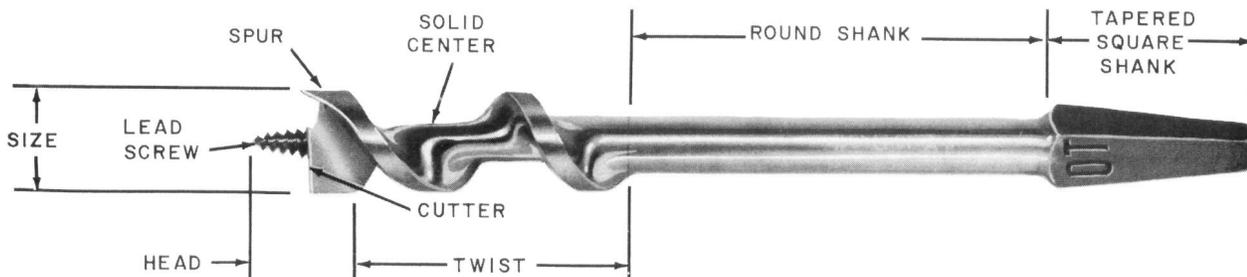

Fig. 3 — Insulator Pin Bit
**2.09** The insulator pin bit (Fig. 3) consists of a solid center twist provided with a head containing a single cutter, a single spur, and lead screw having 12 threads per inch. The length of the bit has been limited to 6-7/8 inches to permit operating the brace between crossarms having standard spacing.